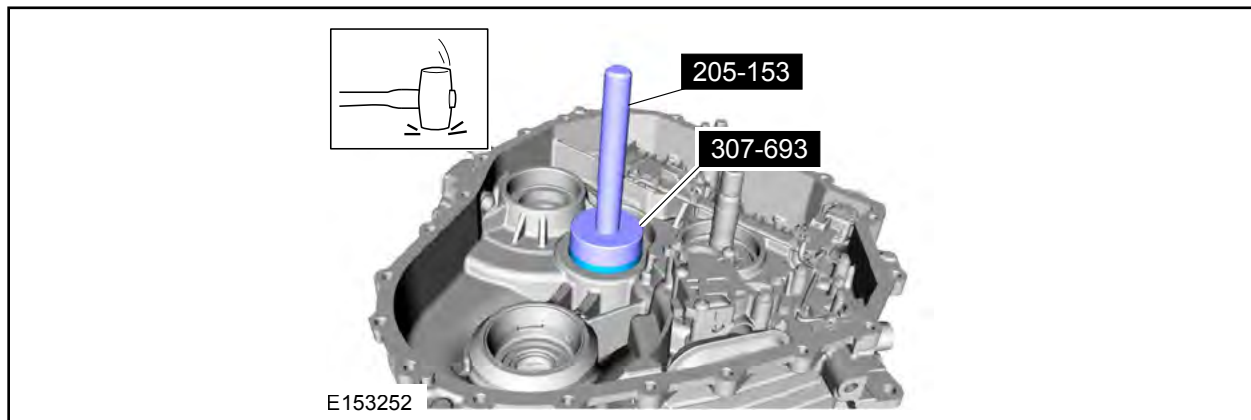

FIGURE 18
14. Install the *new* transmission case side transfer shaft bearing cup. See Figure 18.